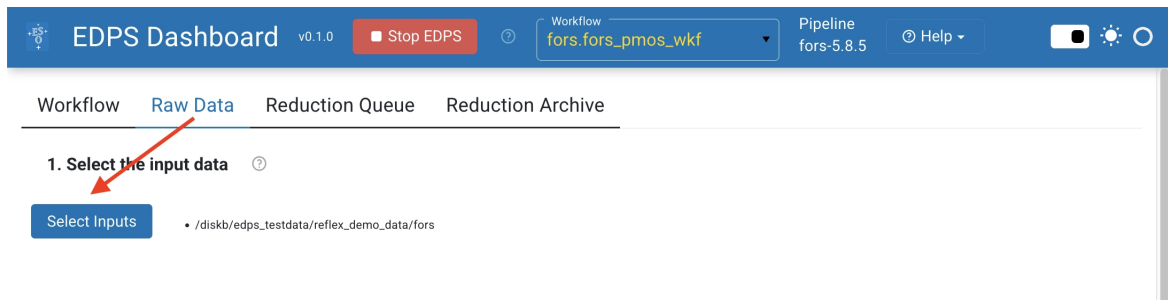

Figure 6: How to select input data.
2. Press 'Select Inputs'. A selection window will appear that allows to select data that are stored on a local disk (Figure 6).